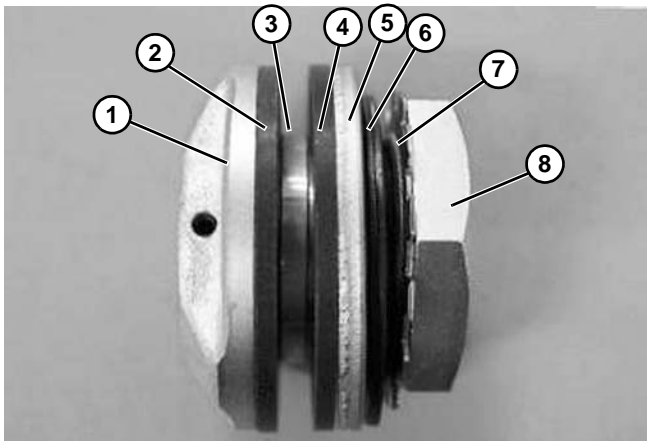

Figure 97
- Prevent damage to the products on the conveyor (See Figure 97.)